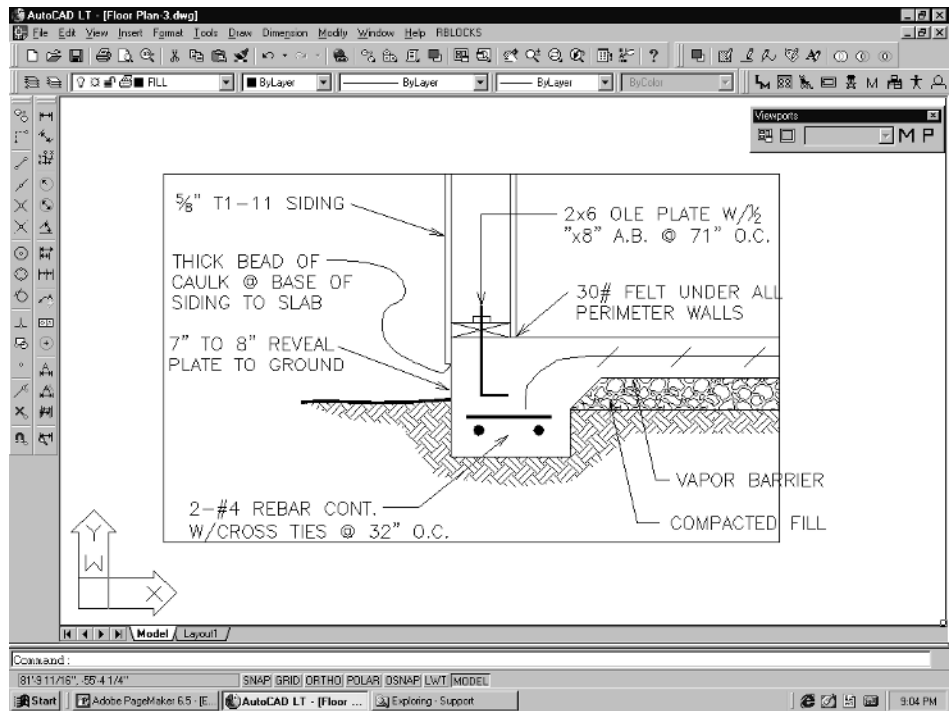

Figure 5-16
16. Next, pan to the footing detail. Remember that the viewport for this detail was scaled at 1" = 1', so we need to change the text and dimension styles. Change the dimension style to **RA12** and the text style to **TEXT12**. Go ahead and add your labels based on Sheet #4. Your footing detail should resemble Figure 5-16.